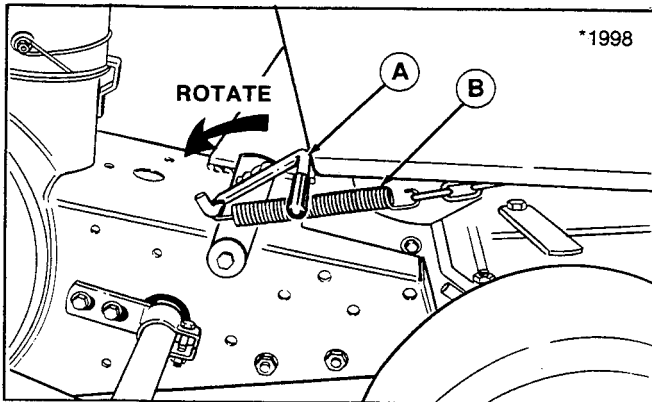

Figure 6. Install Spring
8. Snowthrower must be in fully raised position. Place spring-assist lever (A, figure 6) in rearward position. Install spring to 4-link chain and lever as shown in figure 6. Rotate the lever forward so that it travels "over center" to the fully forward position. Lower the snowthrower.